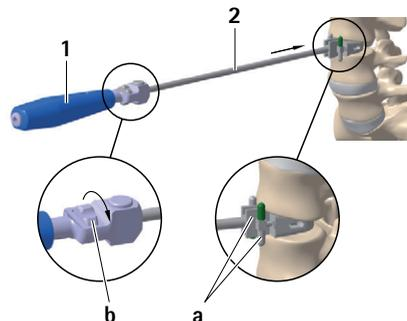

Fig. 1
- ▶ Mount chisel guide 2 with the desired implant height and angle onto the handle 1, see Fig. 1.
- ▶ Turn wheel b clockwise and adjust safety stop a to the shortest chisel length, see Fig. 1.
- ▶ Insert chisel guide 2 centrally into the disk space and adjust safety stop a to the desired chisel depth while monitoring radiographically, see Fig. 1.